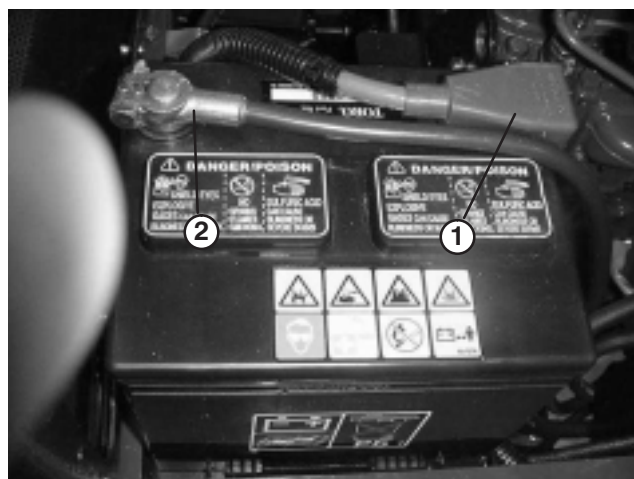

Figure 10
1. Lift engine cover. Check to see that the battery is securely fastened in place (Fig. 10).